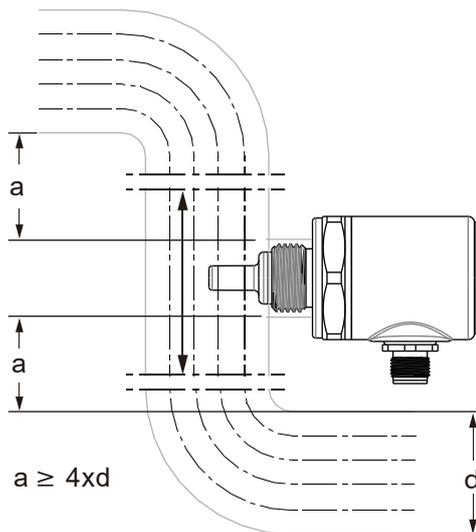

Fig.1
2. The distance "a" should be at least four times the pipe diameter.(Fig. 1)